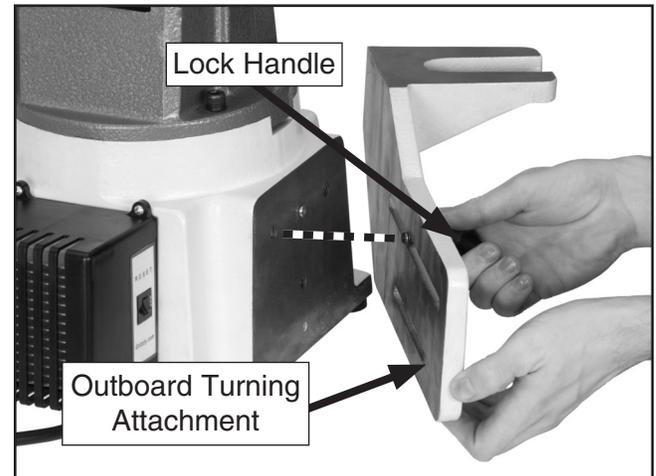

Figure 10. Positioning Handle
1. Insert one of the lock handles through the upper slot in the outboard turning attachment, as shown in **Figure 10**.